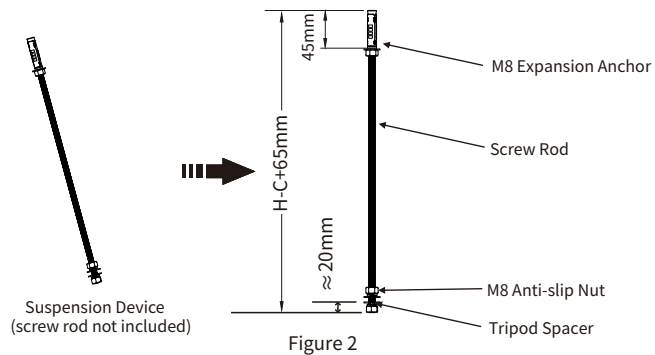

Figure 2
2. Assemble the suspension device using the parts in figure 2. Cut the rod (M8) to a length of: $H-C+65\text{mm}$ / $H-C+52.5\text{mm}$, where H is the distance from the bottom surface of the concrete roof measured in the previous step to the bottom surface of the ceiling, and C represents the frame height. (For example: If H is 1000mm, and the suspension height is 180mm based on the installation method chosen, if choosing cover installation method, the screw length should be $H-C+65\text{mm}=925\text{mm}$. If choosing flush installation, the screw length should be $H-C+52.5\text{mm}=912.5\text{mm}$), determine the installation distance of the frame.